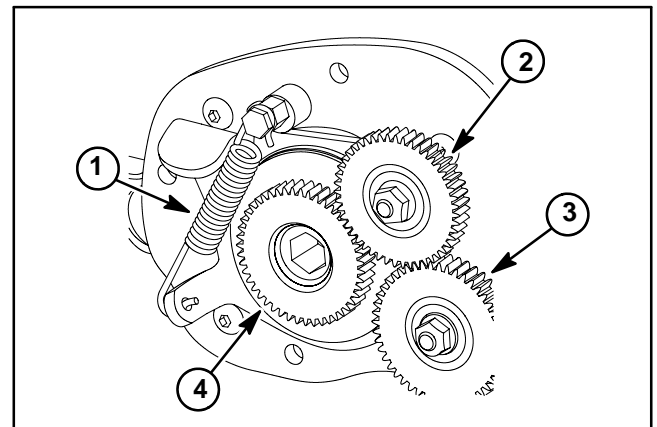

Figure 11
4. Remove groomer cover assembly (item 22) and gasket (item 20) from machine (see Groomer Cover (Counter Rotating Groomer Drive) in this section). Discard gasket.
5. Carefully remove extension spring from anchor points on RH drive plate (Fig. 11).
9. Install extension spring to RH drive plate assembly (Fig. 11).
11. Make sure that bushing (item 3) is installed in RH drive plate assembly.
13. Position RH groomer arm assembly to front roller, RH drive plate and cutting unit frame. Secure groomer arm to cutting unit with plow bolt (item 35), HOC washer (item 9) and HOC nut (item 2).
14. Secure RH groomer arm assembly to drive plate with spring washer (item 4) and lock nut (item 5).
15. Center front roller to cutting unit and tighten cap screws (item 7) to secure roller.
16. Fill groomer cover with approximately five (5) ounces (142 grams) of Mobil XHP221 grease (or equivalent). Install new gasket and then groomer cover assembly to RH drive plate (see Groomer Cover (Counter Rotating Groomer Drive) in this section).